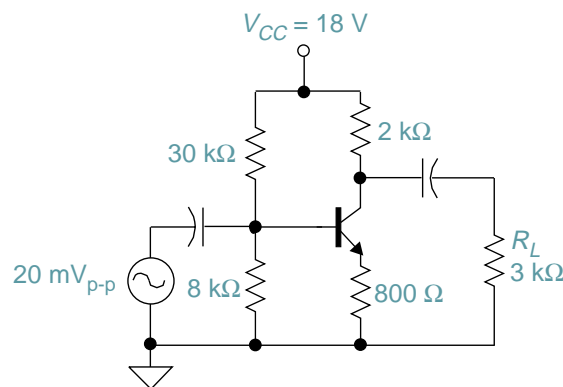

FIGURE 5–25
2. For the circuit in Figure 5–26, find: